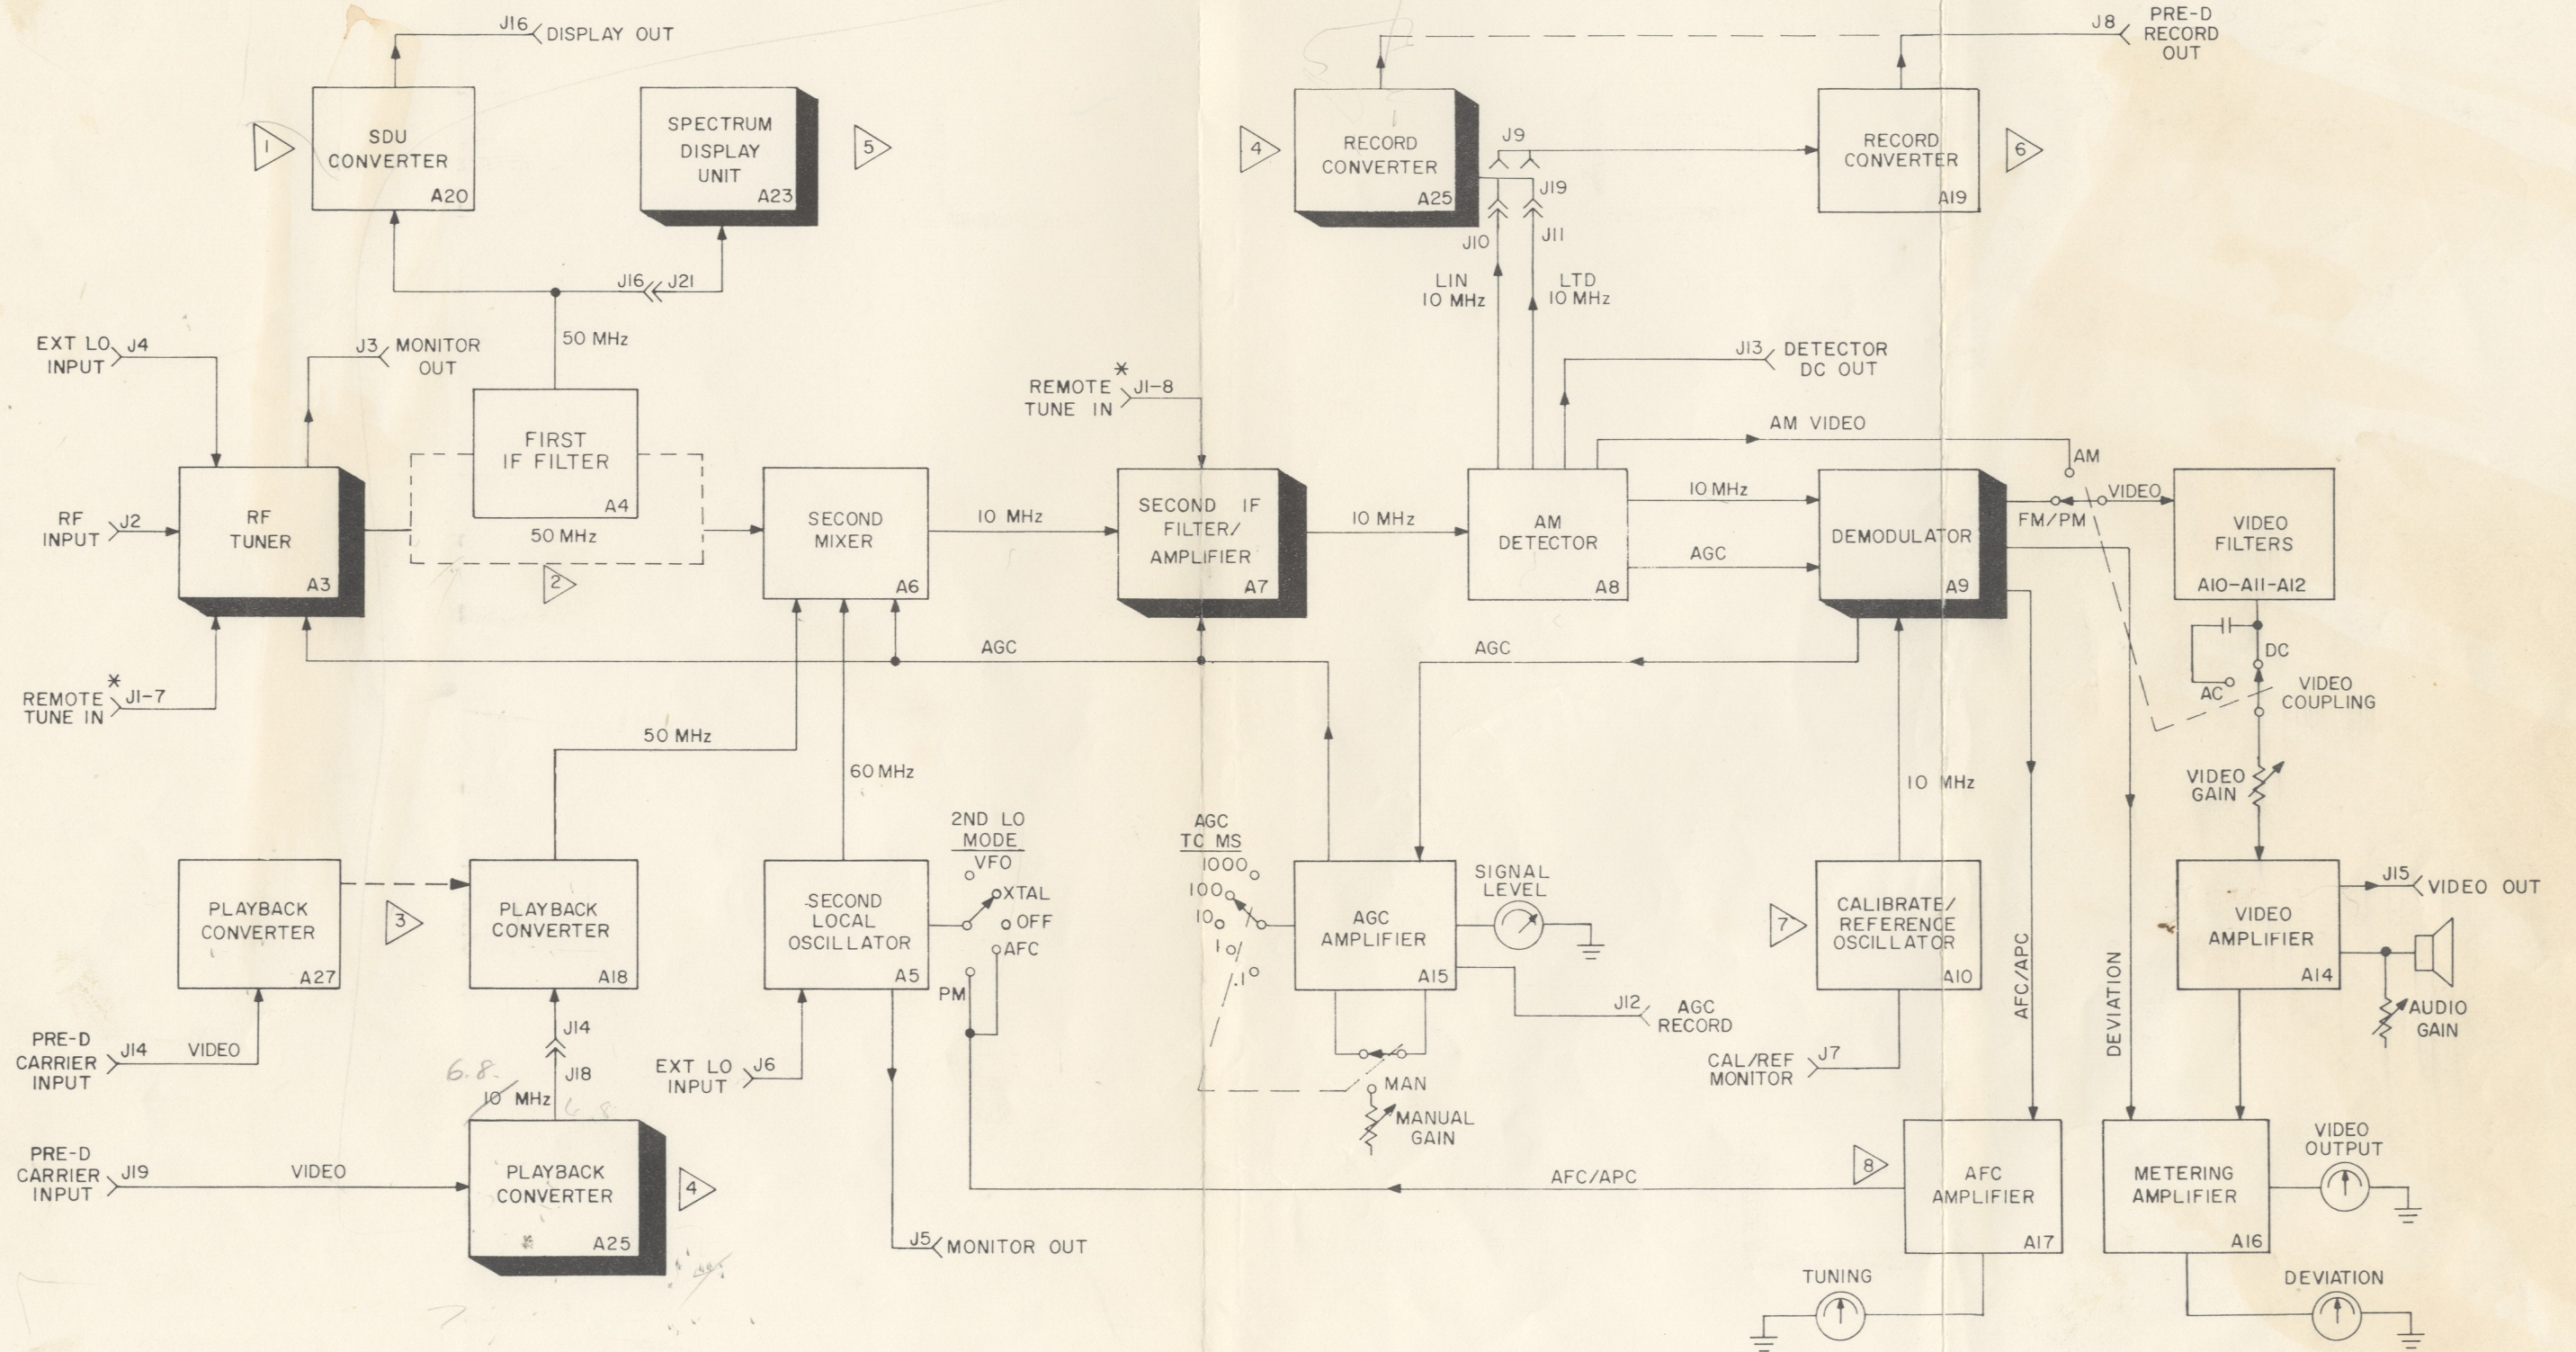

Figure 4-1. Functional Block Diagram
4-2. This section discusses the theory of operation for the 1100-AR receiver on a system level only. The theory of operation is based on the block diagram shown in figure 4-1 and is divided into the various signal paths. In addition, descriptions of the various control circuits are discussed separately and are supported by the necessary block diagrams.
4-6. The normal signal path of the 1100-AR consists of the circuits which accept and process the received rf signal. See figures 4-1 and 7-1.
4-24. PREDETECTION RECORD CIRCUIT. The 10 MHz predetection record signal can be processed using either of two methods in the 1100-AR and by one method in the 1100-AR(5) to obtain a video carrier signal suitable for recording. As shown in the receiver block diagram (figure 4-1), both receiver configurations can be equipped with the 10-1100 series record converters. The 10-1100 series consists of six separate modules each of which
4-26. PREDETECTION PLAYBACK CIRCUIT. As shown by the block diagram in figure 4-1, two methods of playback up conversion are available depending on the receiver configuration.